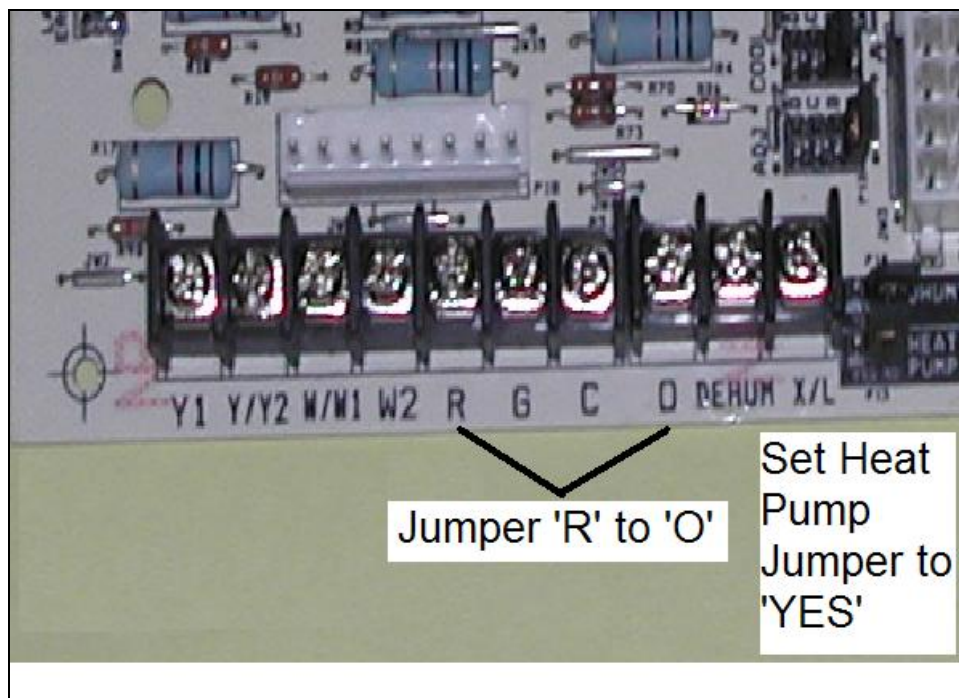

Figure 1: Setting up Board for Comfort Profile
1. For the "Comfort Profile" feature implemented by the 'Delay' jumper, it is necessary to add a wire jumper from the 'R' terminal to the 'O' terminal and then set the 'Heat Pump' selection jumper to 'Yes', refer to Fig 1.